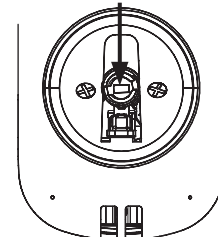

Figure 7
7. Install inside escutcheon on inside mounting plate. Note the horizontal orientation of the tail-piece (Fig. 7) as you insert the inside escutcheon (thumbturn should be vertical).